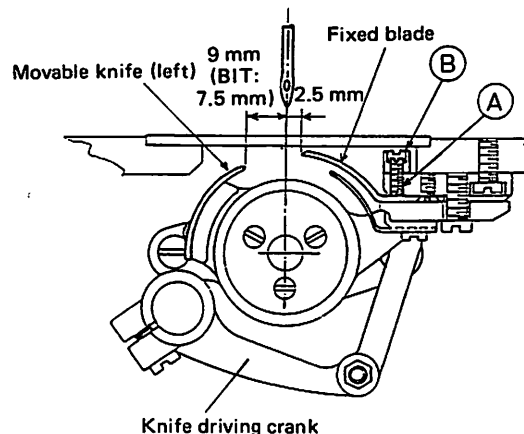
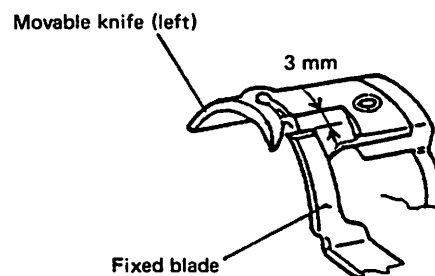

Fig. 11
Fig. 13
(1) Positions of movable knife (left) and fixed blade
- ① Fig. 11 shows the standard state.
(3) Adjustment of knife engagement pressure
- ① The standard knife engaging pressure is obtained when the movable knife (left) and fixed blade start making contact with each other at the position shown in Fig. 13.
- ② When cutting action is poor especially because of thick thread, a slight increase of the engagement pressure produces an effect.
- ③ To adjust the engagement pressure, loosen the lock nut (B) in Fig. 11 and adjust with the adjust screw (A).